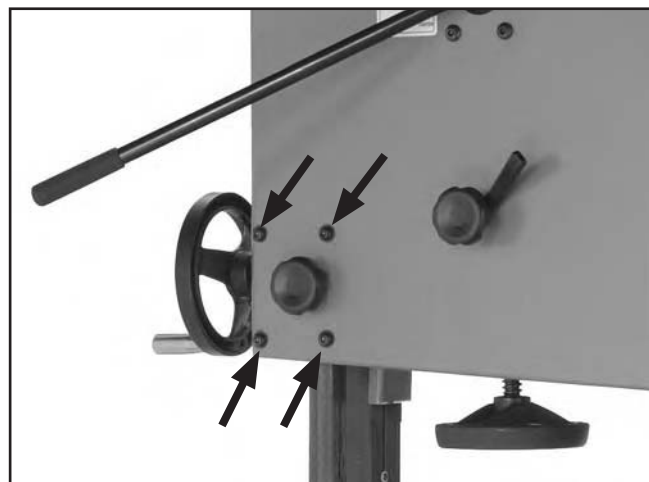
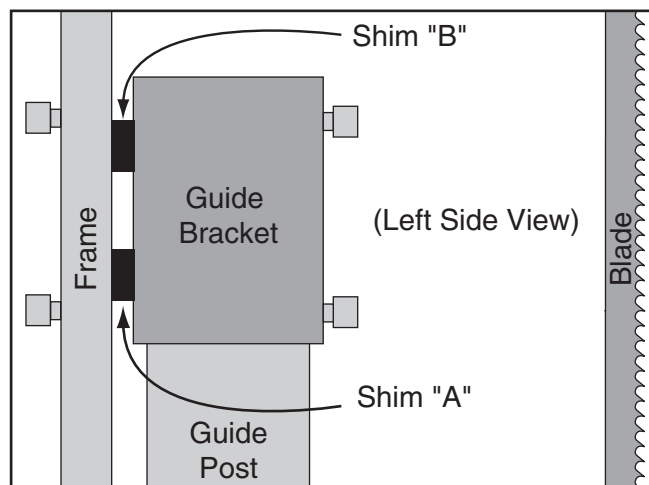

Figure 67. Guide post adjustment screws.
Figure 69. Location for placing shims.
7. Loosen each of the four screws shown in **Figure 67** $\frac{1}{4}$ turn.
9. Tighten the screws shown in **Figure 67**.
7. Loosen the four screws shown in **Figure 67** enough to fit metal shims between the frame and the guide post bracket (see **Figure 69**).
8. Tighten the four screws shown in **Figure 67**, then repeat **Steps 4–5**.